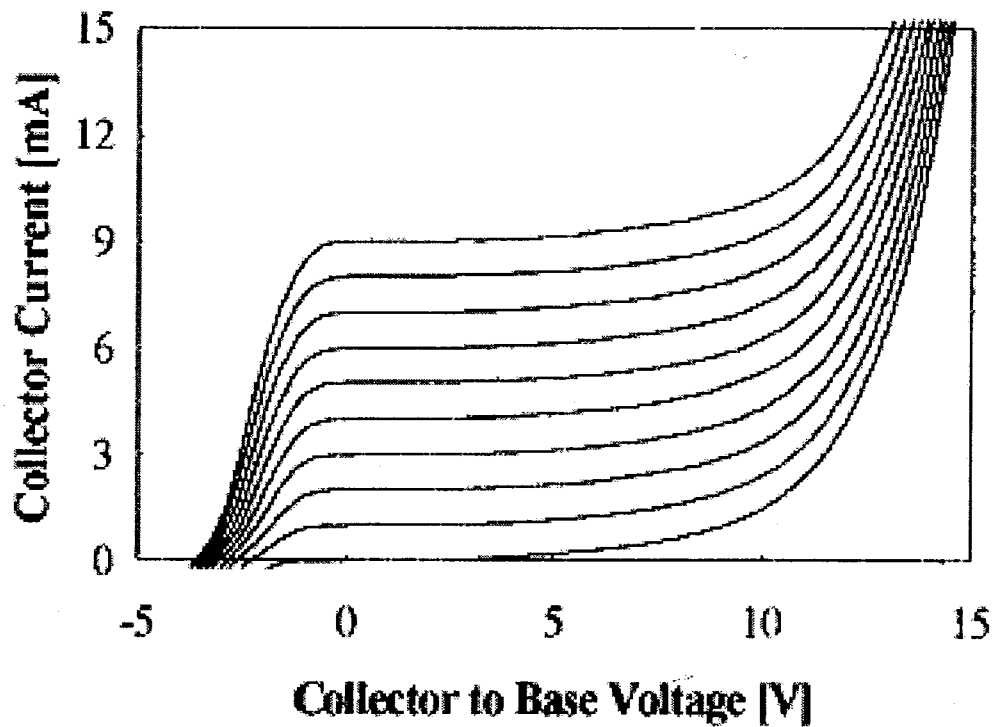

Figure 1
- [c] Figure 1 shows a common base I-V characteristics at room temperature of a PNP BJT. The curves correspond to an emitter current of 0 mA (the bottom curve), 1 mA, 2 mA, 3 mA, 4 mA, 5 mA, 6 mA, 7 mA, 8 mA, and 9 mA (the top curve). The emitter area is 75 μm by 75 μm . Give a brief analysis to this BJT characteristics. Attention should be focused on transistor current and breakdown.